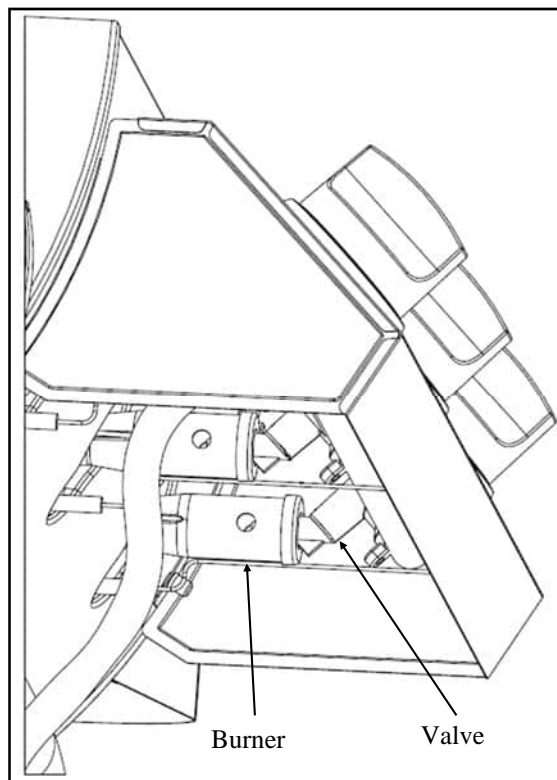

Figure 9B
Step 9: Install the Burners into the Gas Grill Body by inserting the IGNITER WIRES and Burners through the open holes at the front of the Grill Body from inside of the Grill Body, see figure 9A. (NOTE: IGNITER MUST BE ON BOTTOM SIDE OF BURNER). The BURNER with the longer wire goes on the right side of the GRILL BODY. Making sure that the Valve goes inside each burner, see figure 9B. Then secure the Burners to the Grill Body with the screws provided, see figure 9C.